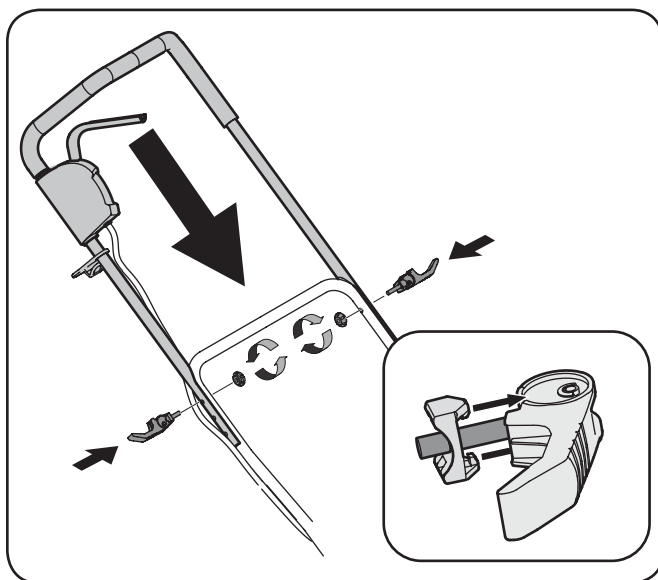

Figure 3-4
- Place the upper handle onto the lower handle, keeping the motor cord over the handles. See Fig. 3-4.
NOTE: Make certain the clips on the clamp retainers are inside the grooves of the clamp seats. See Fig. 3-4 inset.
- Insert toggle clamps packed separately with the mower into the holes for the selected height. See Fig. 3-4.